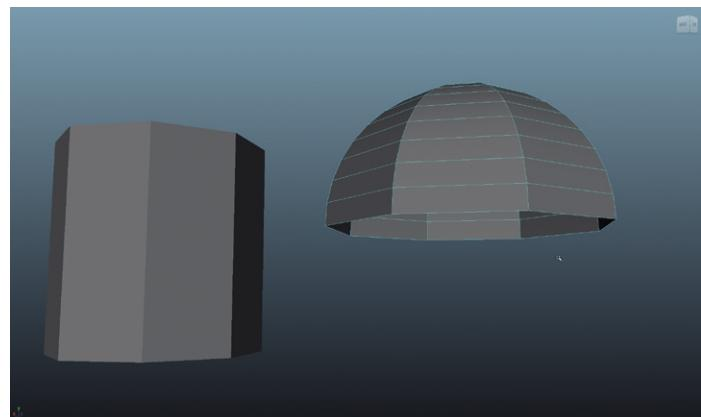

FIG 3.37 Creating the polygon sphere (or half sphere) that will become the dome of the room's ceiling.
Step 52: Create the dome for the roof. Start by creating a polygon sphere (Create > Polygon Primitives > Sphere). Move the sphere over to near the cylinder. With the sphere selected, look in the Channel Box and under the INPUTS section, expand the polySphere1 node and change the Subdivisions Axis setting to 8 (to match the number of walls in the lower room). Now, in Faces Mode, select and delete all the faces beneath the sphere's equator (Fig. 3.37).